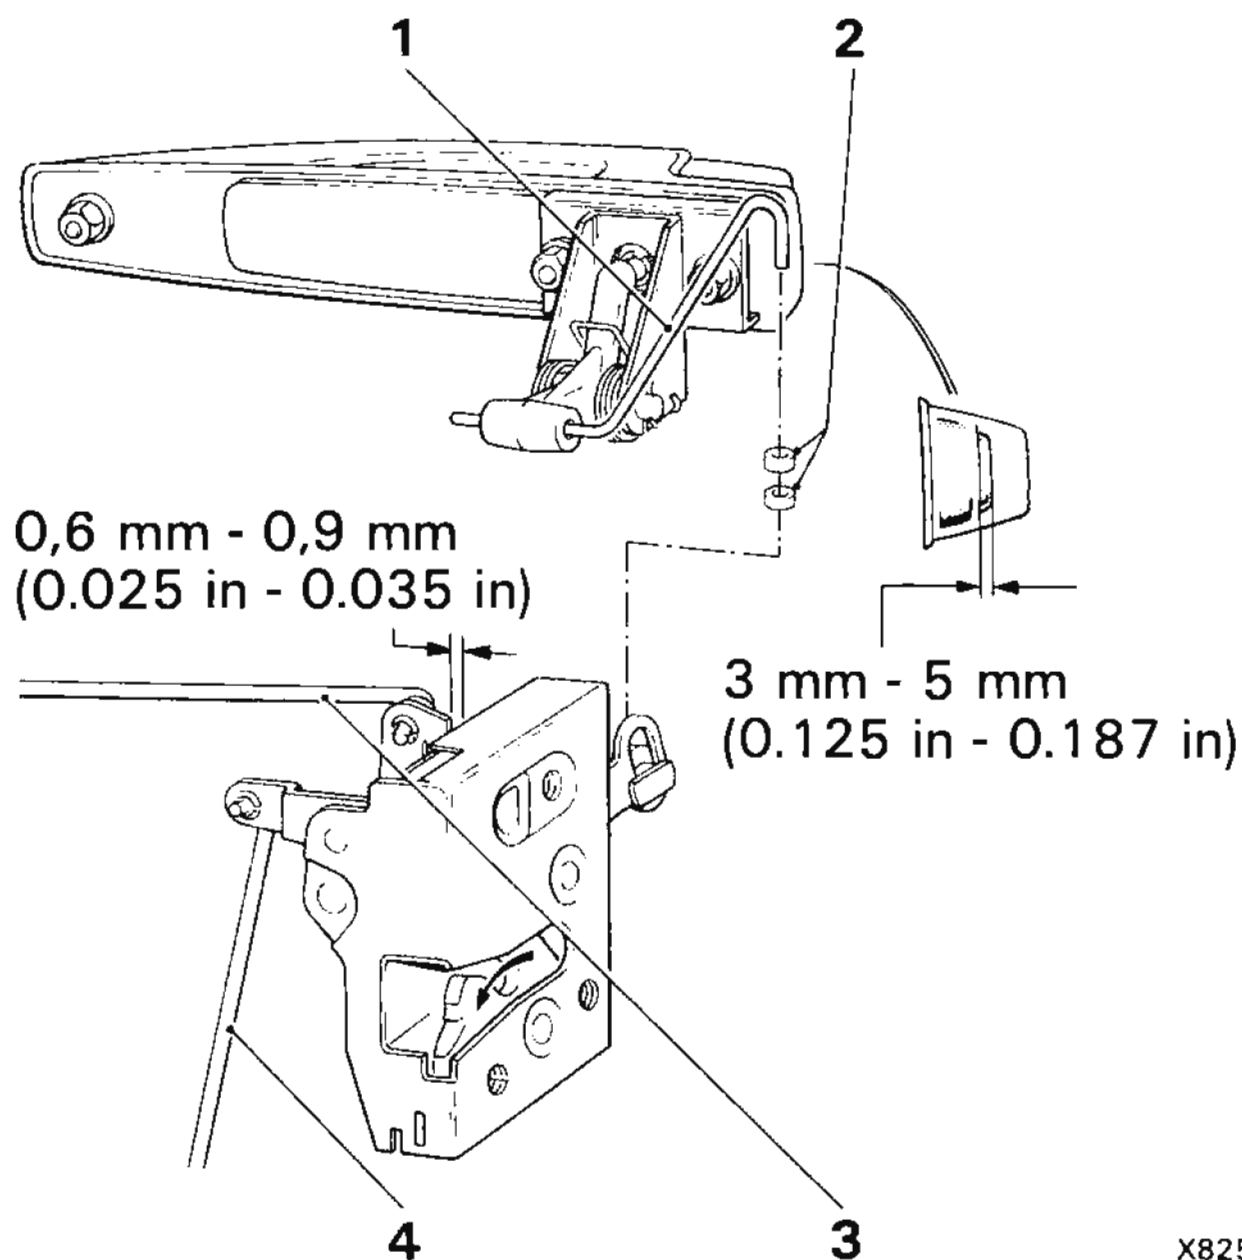

Fig. 3
- e Place the latch in the door. Ensure that the exterior handle control rod, with the correct amount of metal spacers, engages in the hole of the plastic connector on the latch (see fig. 3).
- g Push the latch into the door closed position. Ensure that the exterior push button operates the latch with 3-5 mm (0.125-0.187 in) overtravel (see fig. 3).
- i Move the interior handle forward until all the slack is taken up and the handle fully returns against its stop. Adjust the handle further forward until a measurement of 0,6-0,9 mm (0.025-0.035 in) is achieved between the interior handle link rod catch and the door latch backplate. (see fig. 3). Tighten the interior handle securing screws.